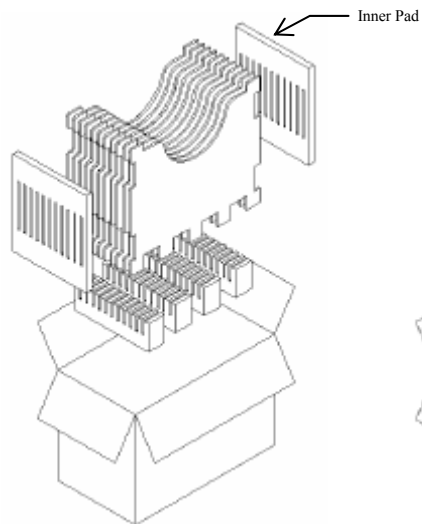

Fig 1
- e) Packing form is shown in Fig.1,2,3
Step 1 Take a carton and put inner pad as fig1.